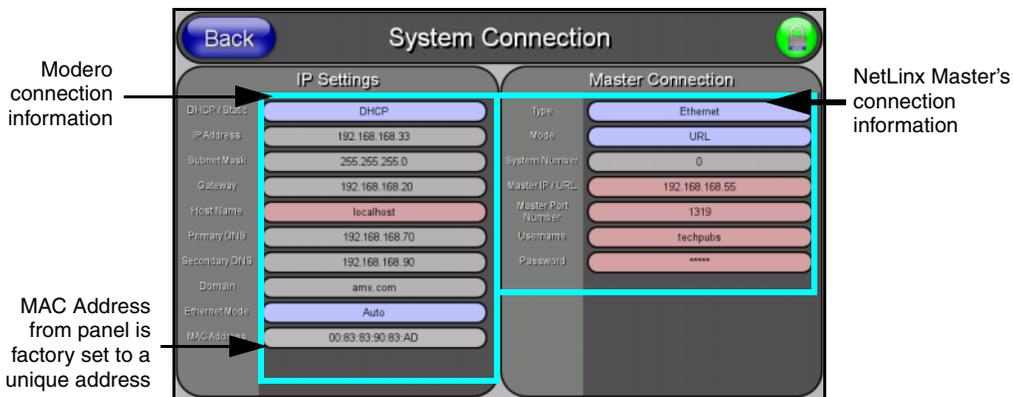

FIG. 49 System Connection page
- Press the **System Connection** button (located on the Protected Setup page) to open the System Connection page (FIG. 49) and begin configuring the communication settings on the panel to match those of the target Master.